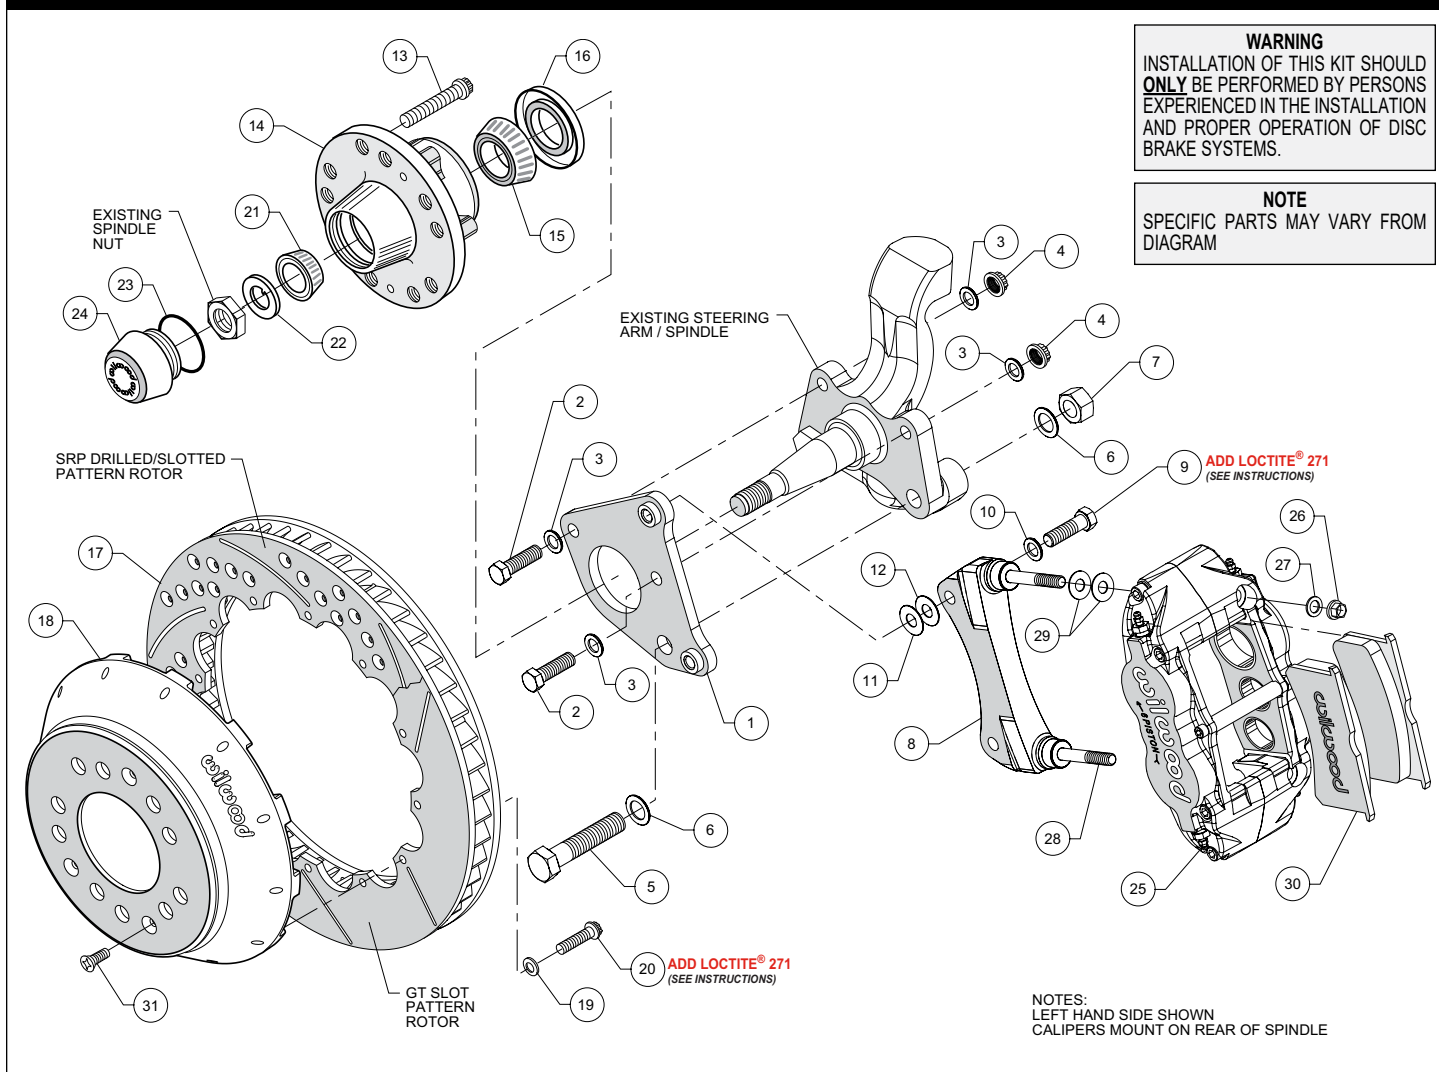

Figure 1. Typical Installation Configuration
NOTE: Numbers in parenthesis refer to the parts list and Figure 1 on the preceding pages.
- Install the flat caliper bracket (1) to backing plate face of spindle using bolt (5) and washer (6) as shown in Figure 1. Install another washer (6) and lock nut (7) on the rear side. Install two bolts (2) with washers (3) through caliper bracket. Install another washer (3) and lock nut (4) on the rear side of each bolt. Torque two lock nuts (4) to 47 ft-lb. Torque lock nut (7) to 140 ft-lb. **NOTE:** Be sure the heads of the caliper bracket (1) insert nuts are facing outward toward the wheel. Reference Figure 1 as necessary.
- The radial caliper mounting bracket assembly (8) should be installed first with clean, dry threads on the mounting bolts. Install the bracket on the inboard side of the flat caliper mounting bracket (1) by sliding bolt (9) through flat washer (10), through the mounting hole in the bracket (8) and into the flat bracket (1) insert nuts. Initially place two shim washers (12) between the two brackets (1 and 8) (see figure 1). The radial bracket (8) must tighten squarely against the inboard side of the flat mounting bracket (1). Later, after the caliper, pad, and rotor alignment has been checked, and any necessary shims have been put in place, the mount bolts should be coated with red *Loctite*® 271 and torqued to 47 ft-lbs.
- Install five new wheel studs (13) into the hub (14). Torque to 77 ft-lb. **NOTE:** There are two five lug patterns in the hub (5 x 4.00 and 5 x 4.50). Make sure of the correct hole pattern for the correct wheel application before installing studs into hub.
- Pack the large inner bearing cone (15) with high temperature disc brake bearing grease (available from your local auto parts store) and install into the backside of the hub (14).
- Pack the small outer bearing cone (21) with high temperature disc brake bearing grease. Lightly coat the spindle bearing surfaces with bearing grease. Slide the hub assembly (13, 14, 15 and 16) with outer bearing cone (21) onto the spindle. Secure using spindle washer (22) and existing spindle nut. Adjust bearings per OEM specifications and install nut locking device.
- Install the dust cap (24) onto the hub (14). Friction created by the o-ring (23) on the dust cap (24) keeps it from unscrewing. The O.D. of the existing spindle washer may be larger than the I.D. of the dust cap (24) which may allow the washer to contact the dust cap (24). Be sure to use the spindle washer (22) supplied with the kit instead of the stock washer.
- NOTE:** *This kit contains distinct right and left hand calipers that must be mounted in a specific direction, as described below.* Initially place two .035" thick shims (29) on each stud (28) as shown in Figure 1. Mount the caliper (25) onto the bracket (8) using lock nuts (26) and washers (27), Figure 1. Ensure that the caliper is mounted so that the largest pistons are at the rotor exit end of the caliper, in relation to the direction of rotor rotation. Temporarily tighten the lock nuts and view the rotor through the top opening of the caliper. The rotor should be centered in the caliper. If not, adjust by adding or subtracting shims (11 and/or 12) between the radial bracket and the spindle bracket. Always use the same amount of shims on each of the two mounting bolts.
- Remove the caliper center bridge pad retainer bolt, nut, and tube from the caliper. Slide the brake pads (30) into place. They should install easily without interference. Check that the outside radius of the brake pad is flush with the outside diameter of the rotor face. Add or subtract shims (29) between the caliper and radial mounting bracket to gain the proper alignment. Reinstall the center bridge pad retainer tube, bolt, and locknut. The locknut should be snug without play in the bolt or tube. Be cautious not to over tighten.
- Once all clearances have been checked, remove the wheel, caliper, hat, and rotor from the spindle and hub. Secure the radial caliper mounting bracket (8) to the flat caliper mounting bracket (1) using red *Loctite*[®] 271. Torque the bolts to 47 ft-lbs. Reinstall the hat and rotor assembly and again use several lug nuts to hold it in place. Reinstall the caliper, torque the caliper nuts (26) to 30 ft-lbs.
- Install three flat head socket screws (31) through the small holes in the hat (18) and torque to 85 **in-lb**.